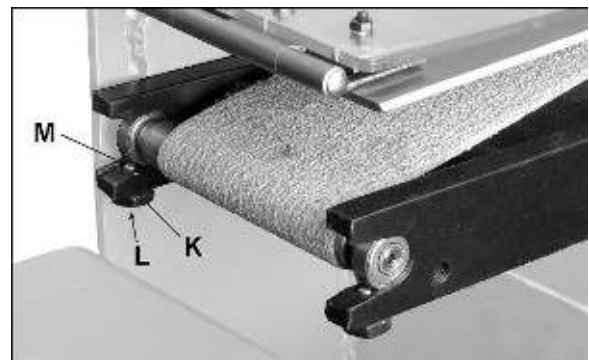

Fig 8
3. Loosen hex nuts (K, Fig.8) and turn set screws (L) to lower steel balls (M).
5. Raise balls (M) by turning set screws (L), tighten hex nuts (K), and tension belt.